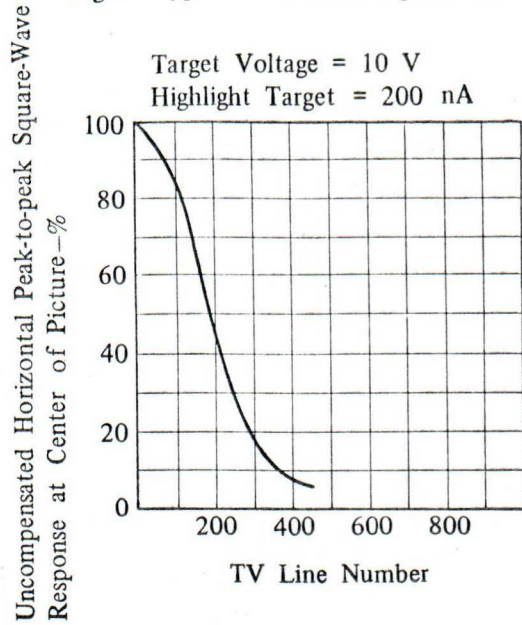

Fig.7 Typical Transmission of Schott Jenaer KG-3 Infrared Absorbing Filter, Thickness = 5.5 mm
10. With the same light source specified in note 8 except on infrared absorbing filter (Schott Jenaer KG-3, 5.5 mm thick) is interposed between the light source and the faceplate of the tube. (See Fig. 7)